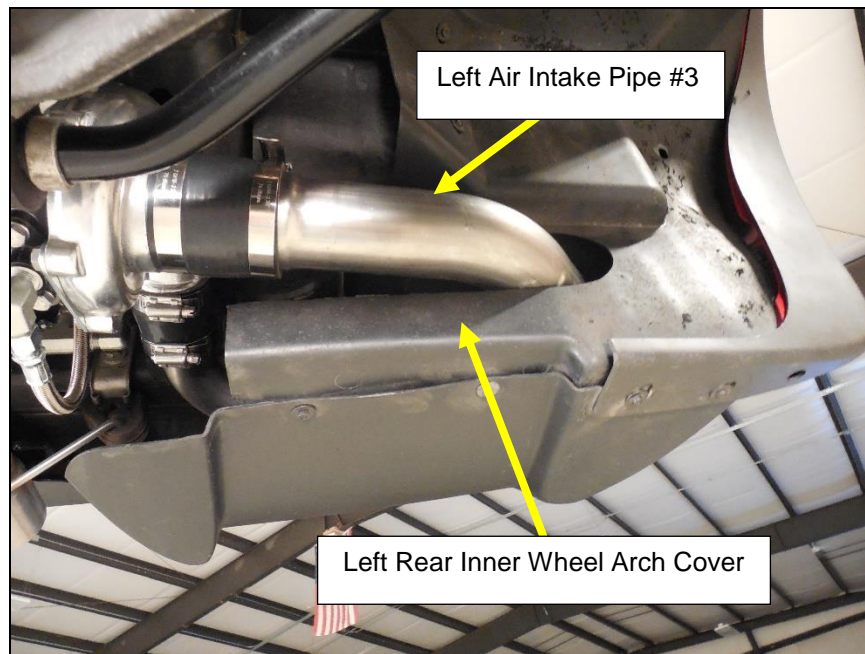

Figure 67
1. Install the rear wheel arch covers into the vehicle. The cover will require trimming at the rear bottom portion of the cover to allow the left and right air intake pipes #3 to come through (**Figure 67**).